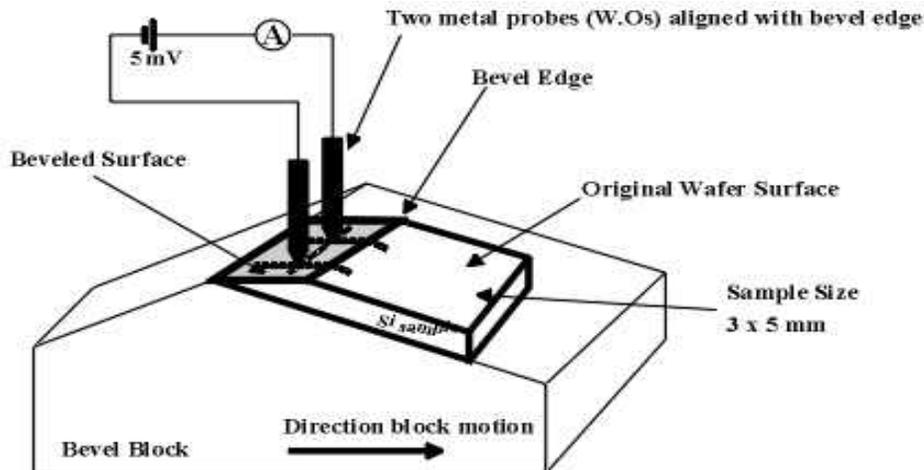

Fig. 2: Measurement principle: Bevel block (chuck) with sample; two electrodes; low voltage.
The spreading resistance measurement system (SRMS) is normally used to determine active doping profiles in semiconductor materials. It can also be useful to determine the film thickness of a thin film. It measures the electrical resistance of a sample along a polished bevel. As the two electrodes are very close together only the local electrical resistance is measured (the spreading resistance). A schematic picture of the measurement technique is given in Fig. 2.
3. Melt a piece of wax (brown) on the BB to mount the sample. To apply the wax simply touch the wax bar to the hot BB. Line the short side of your sample up with the “roof-top” of the BB (see figure 2).
5. Move the arm slowly around (1 revolution/sec). The direction of rotation should be so that the to-be created bevel edge indicated in Fig.2 is NOT leading. Make approximately 100 turns. Make sure that sample does not touch the glass plate at areas that are not covered with the Isocut-diamond paste cocktail. Add isocut fluid as needed. The polishing process may create multiple bevels if the piston is removed from the polisher during the polishing process.